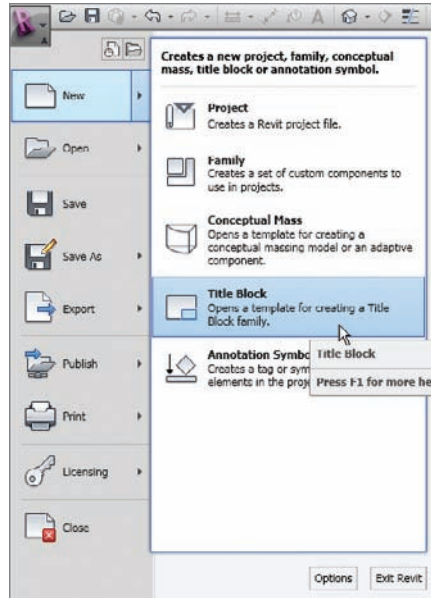

FIGURE 14.26 Creating a new title block
1. Click the Application button and choose New > Title Block, as shown in Figure 14.26.